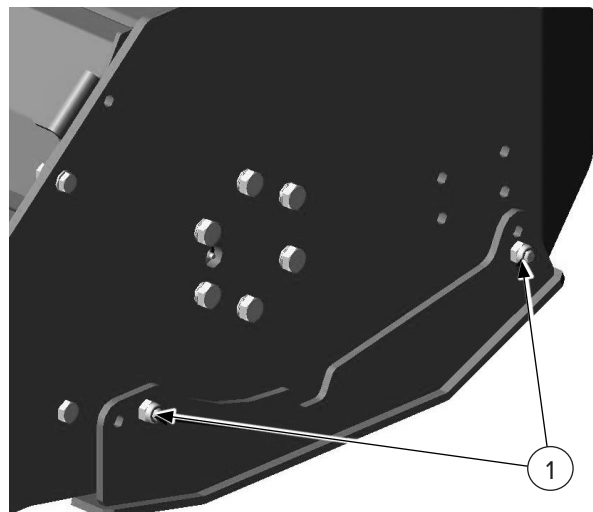

Figure 5
1. Loosen and remove the bolts [Figure 5, Item 1] that holds the skid shoes to the side plates of the Flail Mower.